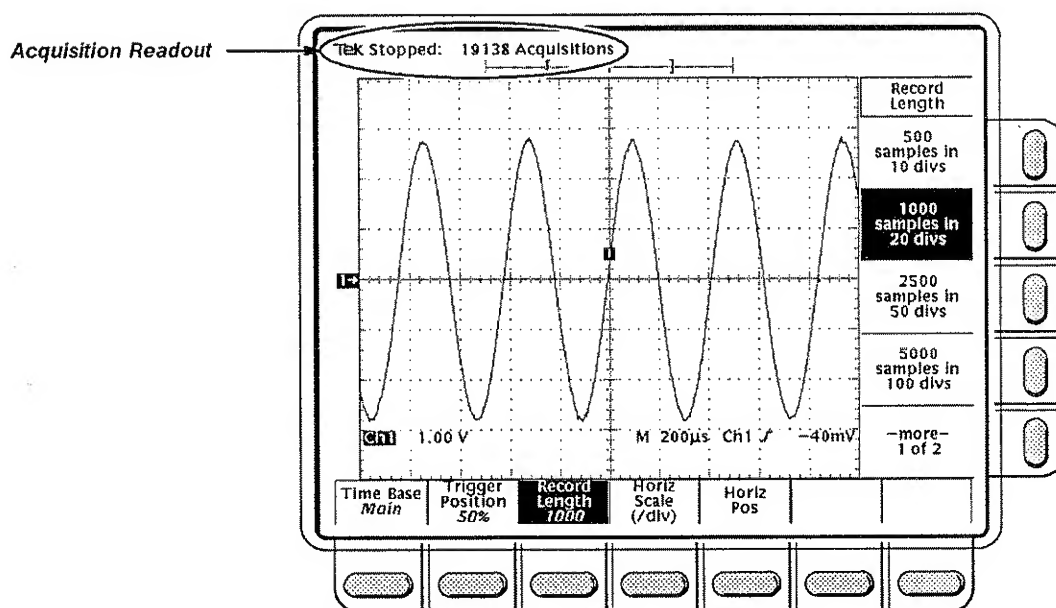

Figure 3-2: Acquisition Readout Shows Acquisition Status
- ☐ **Step 2:** If desired, press **RUN/STOP** from the side menu. This will let you stop and start acquisitions using the from panel **RUN/STOP** button. Pressing it once will stop the acquisitions and the Acquisition readout will resemble the one shown in Figure 3-2. Pressing it again will restart taking acquisitions.